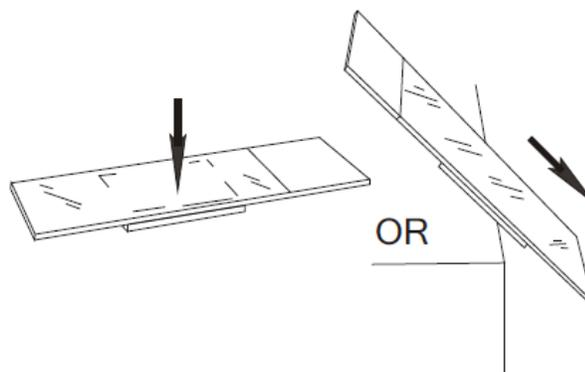

Figure 3
4. Ensure a secure seal by pressing the surface of the Secure Seal™ over the adhesive area using finger pressure or by rubbing the Secure Seal™ Surface gently against the edge of the lab bench (Figure 3). Confirm uniformity of the seal by visually inspecting the adhesive area through the glass slide.